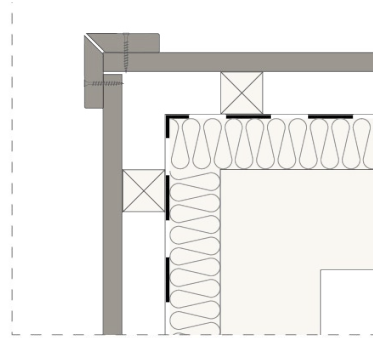

Fig. 2
- by covering the corner with two rectangular profiles joined at a 45° angle (see Fig. 2)